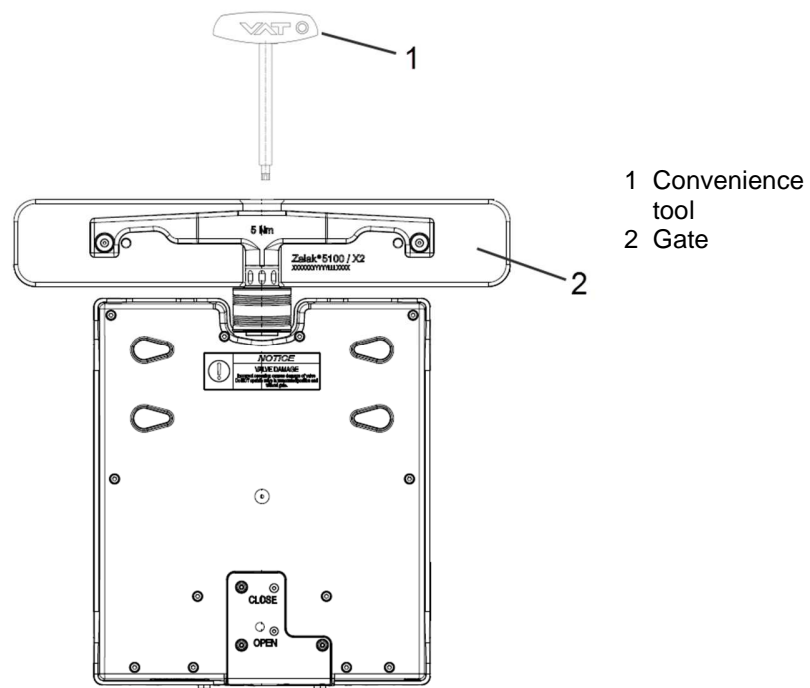

Figure 6-2
5. Loosen the screw for the gate (2), use convenience tool (1), see «Figure 6-2» on page 19.
6. Grasp the gate (2), by using the convenience tool (1) into the M8 thread, see «Figure 6-2» on page 19.
7. Remove the gate (2) carefully, if necessary wiggle gently, use convenience tool (1), see «Figure 6-2» on page 19.